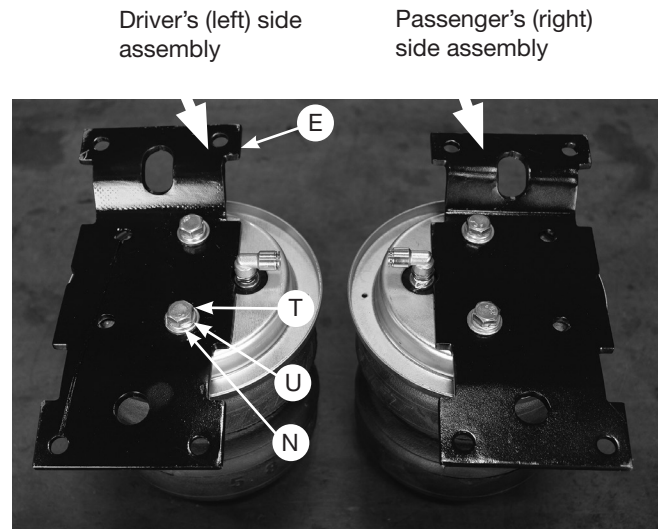

Fig. 9
- Set the upper air spring bracket (E) onto the top of the air spring using one set of holes with the 3/8"-24 x 7/8" hex-cap screw (T), 3/8" lock washer (U) and 3/8" flat washer (N) (Fig. 9). Install the remaining air spring bracket onto the remaining air spring, using the opposite holes from those that were previously used. This makes the air spring assemblies into left- and right-hand units. Torque the hardware to no more than 20 lb.-ft. (27Nm).